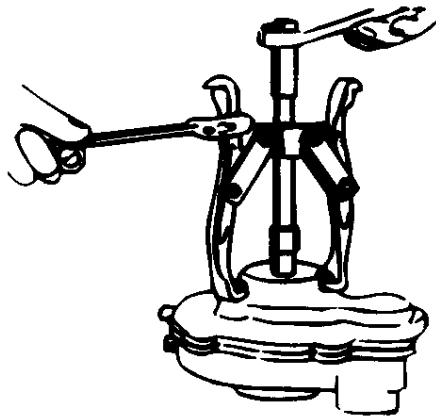

Figure 6. Pulling end plate from body
2. With a 9/16" wrench, unscrew 6 nuts (1) from capscrews (12) and remove capscrews.
3. Screw two screws (12) into opposite threaded holes on end plate (2). Install puller (Fig. 6). Tighten puller with a wrench to pull end plate (2) from body (3). Lift off end plate (2).
**Note:** Although a puller is recommended, you can separate the end plate (2) from the body (3) by using a 1" diameter brass rod at the shaft end, tapping it with a hammer.
4. Remove gasket (4).
**Note:** Snap rings (9,13) bearings (11) and shaft (15) should not be removed unless damage has occurred.
5. Use snap ring pliers to remove snap ring (9) from end plate (2).
6. To remove bearing (11), push out with arbor press or use a small piece of brass rod and gently tap with hammer.
7. Remove dust shield (10).
8. Use snap ring pliers to remove snap ring (9) from body (3).
9. Using screwdriver, pry nameplate (14) from body (3).
10. Push shaft (15) and bearing (11) out of body (3) with an arbor press or by using a small piece of brass rod and tapping with hammer.
11. Remove snap rings (13) from shaft (15).